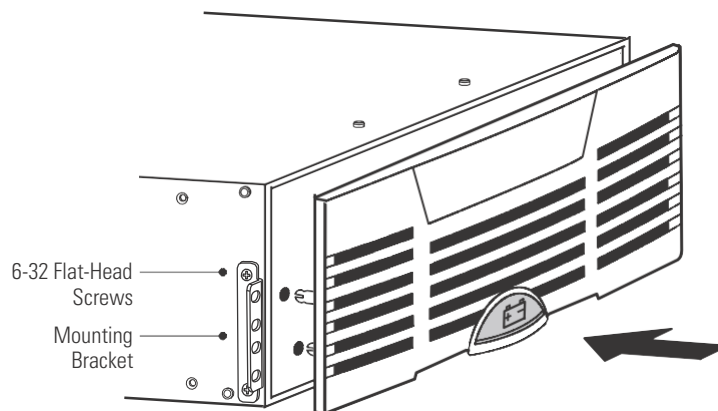

Figure 36. Installing the EBM Mounting Brackets
8. If the mounting brackets are not already installed, align the two mounting brackets with the screw holes on the side of the EBM and secure with the supplied 6-32 flat-head screws (see Figure 36).
Align the pins on the rear of the front cover with the openings in the EBM. Push the cover firmly into place. See Figure 36.